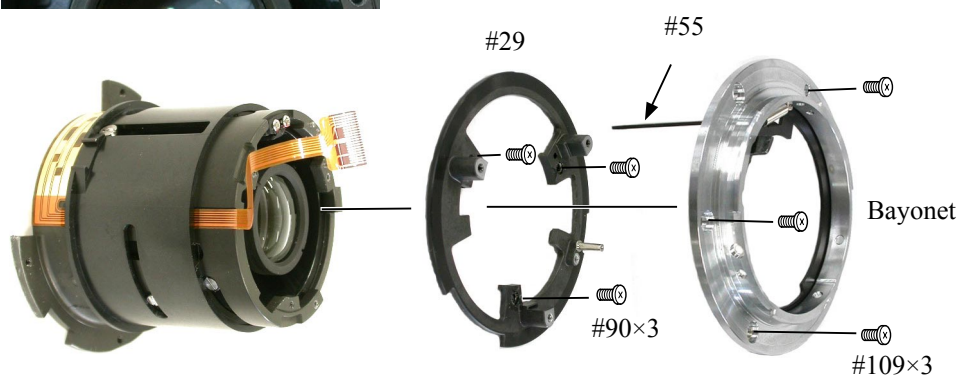

Fig. 1.
- As shown in Fig. 1., assemble #29 and the bayonet.